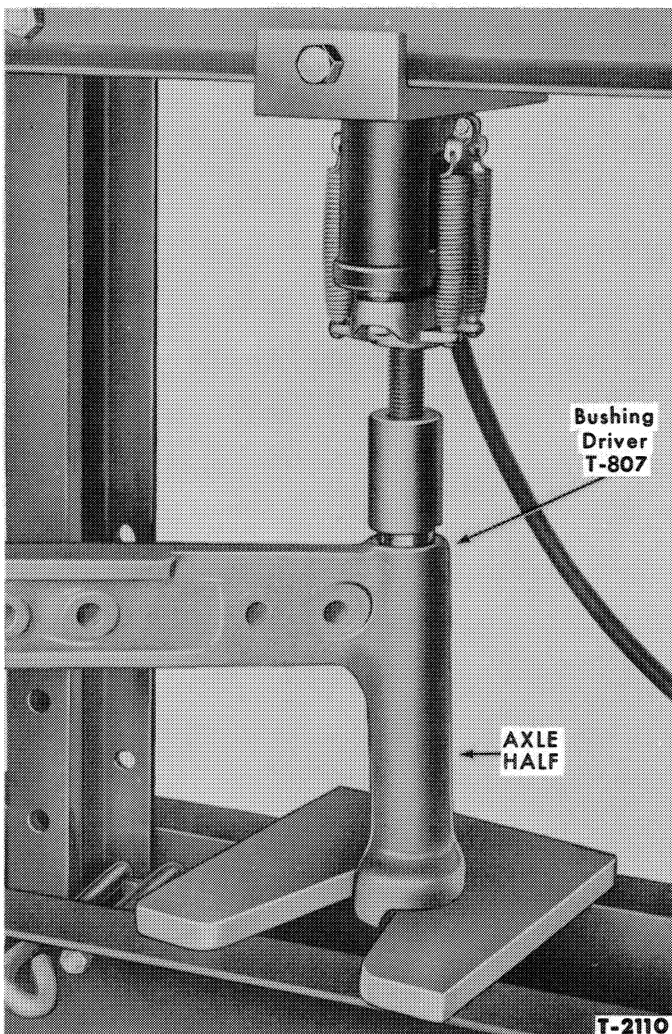

Figure 5—Installing Axle Half Bushing
1. Install the axle half upper and lower bushing, Figure 5, with Bushing Driver T-807 and an arbor press. Be sure the bushings are pressed all the way in the housing.